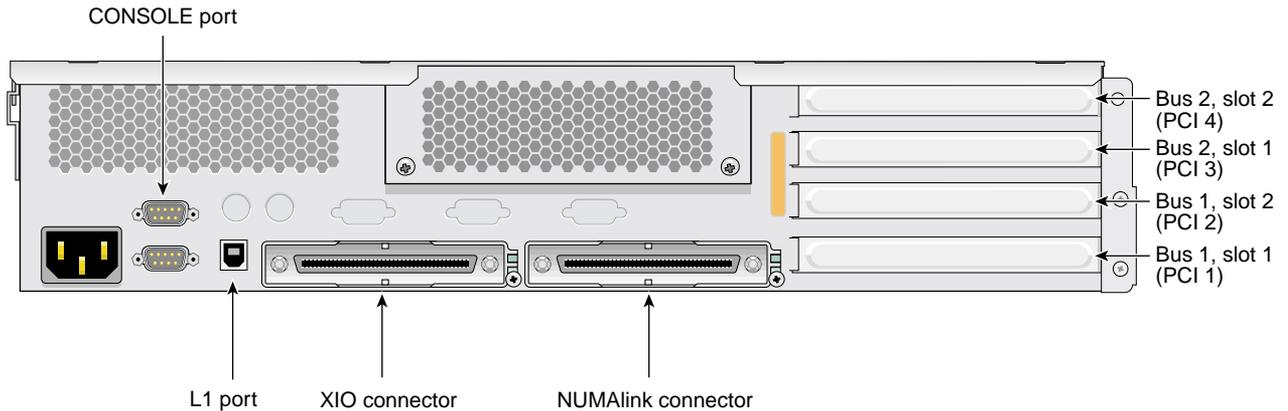

Figure 6-2 Rear Panel of the Onyx 350 MPX Module
- Has 1 NUMAlink port to connect to a compute module (see Figure 6-2).